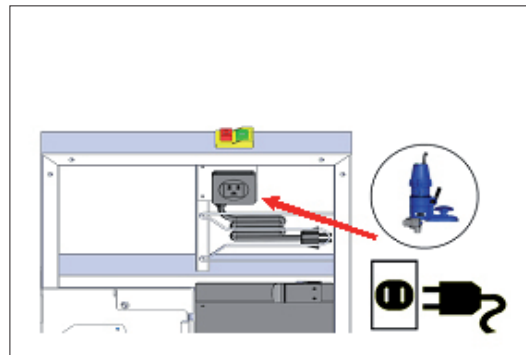

Fig.17
- Turn off the power switch before operating the trimmer. Plug the trimmer power-plug into the embedded trimmer outlet on the working table (see Fig 17). If an emergency condition occurs, press the red emergency button to shut down the power immediately.